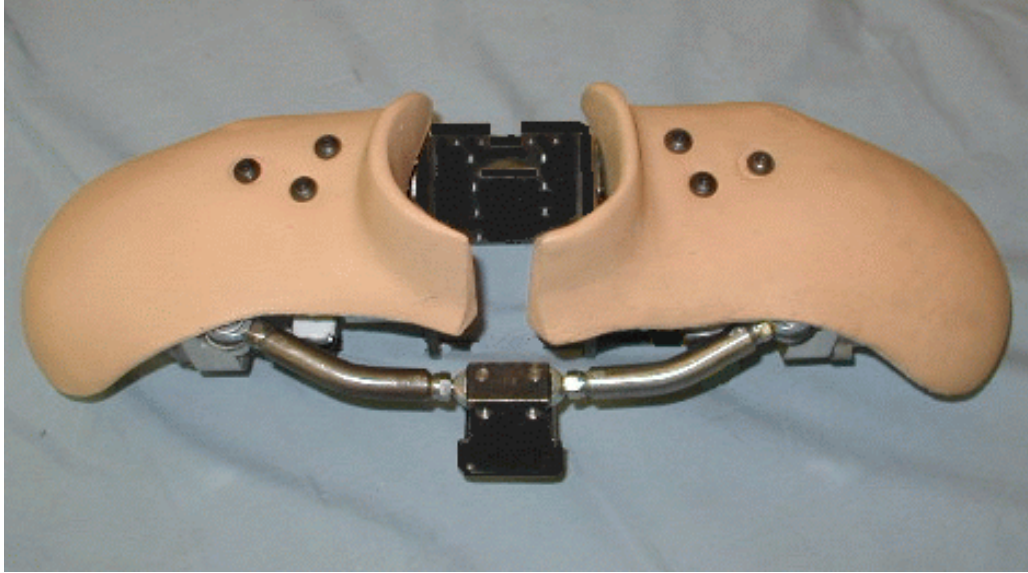

Figure 8.23- Shoulder Pads attached to shoulder assembly
24. Attach the Right and Left Molded Shoulder Pads (T1SHS110 & T1SHS111) to the top of the shoulder supports, using three 1/4-20 x 1" flanged BHSCS {5/32} on each side, as shown in **Figure 8.23**.